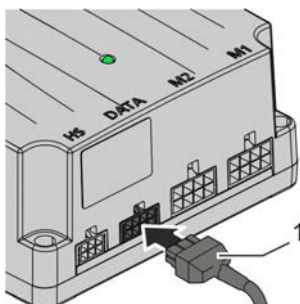

Figure 24 - Connecting the BUS cable (control)
1. Connect the BUS cable (Figure 24/1) to the DATA interface on the control.